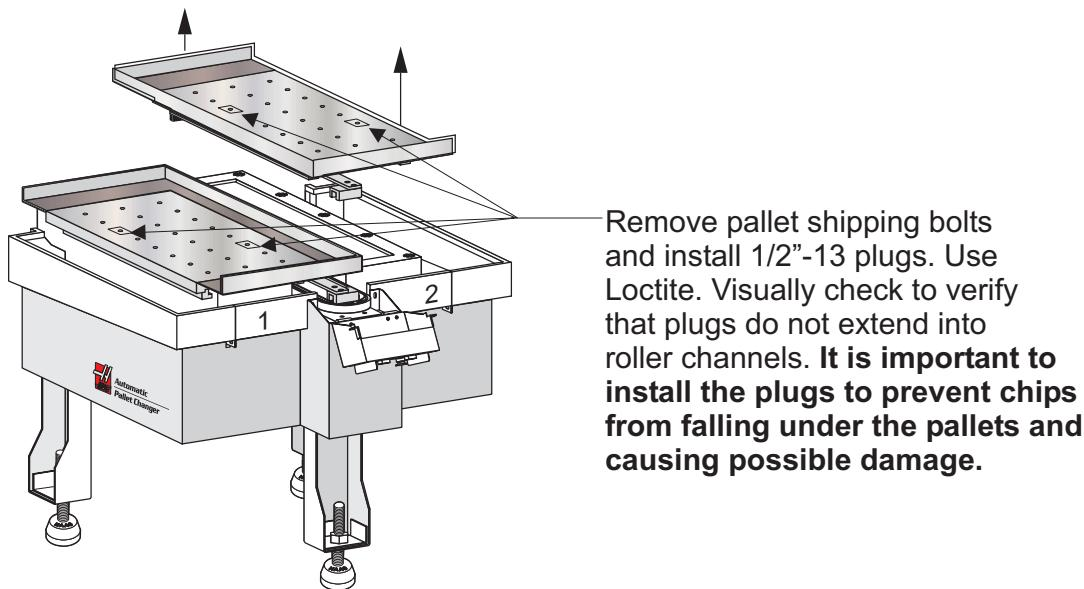

Figure 3.1 Removal of Shipping Bolts
1. Remove the APC from its shipping crate. Remove all tie-downs and strapping materials. Remove the pallet shipping bolts and install the socket set screw plugs with Loctite (see Figure 3.1). Lift off the pallets and set them aside. Remove the door air cylinder and the cable bundle from their storage positions in the APC pan.